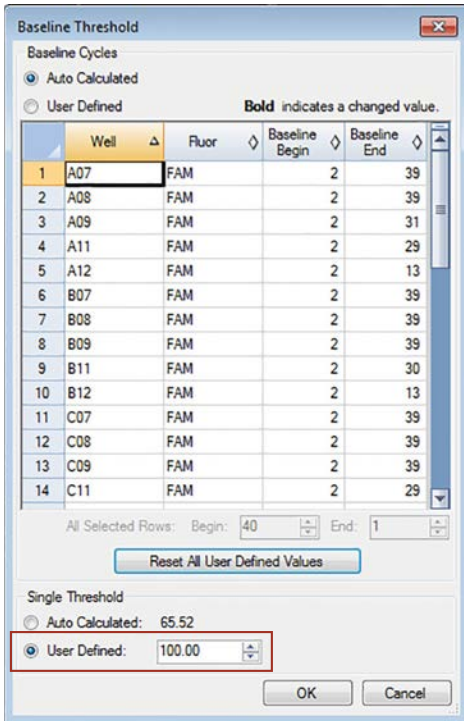

Figure 6. The Baseline Threshold window (from the amplification plot on the Quantification Tab) in the DNA Analysis window.
- b. Under the Settings menu, select “Baseline Threshold...” (Figure 6).